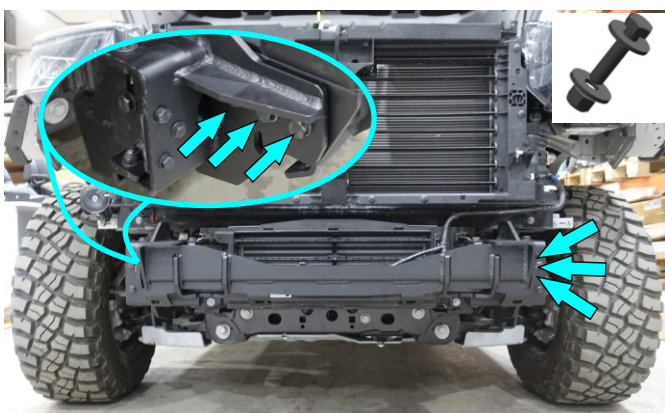

Fig.34
34. Secure winch bracket (item 13) using bolts M12x50, washers M12, nuts M12 (items B3, H4, E5) as shown in fig. 34.